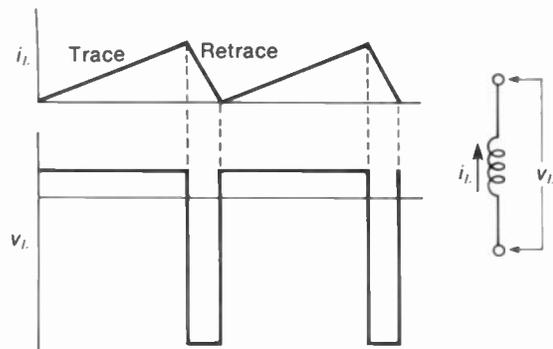

FIGURE 20-29 SAWTOOTH CURRENT  $i_L$  AND RECTANGULAR VOLTAGE  $v_L$  FOR A PURE INDUCTANCE  $L$ .
**Sawtooth  $i_L$  and rectangular  $v_L$  for inductance.** See Fig. 20-29. The amount of induced voltage across  $L$  depends on the rate of change of current. A faster change in  $i_L$  produces more self-induced voltage  $v_L$ . Furthermore, for a constant rate of change in  $i_L$ , the amount of  $v_L$  is constant. As a result,  $v_L$  in Fig. 20-29 is at a relatively low level during the slow rise in  $i_L$  during trace time. Then the fast drop in  $i_L$  produces a
**Voltage waveshapes for horizontal deflection.** The horizontal scanning coils are mainly inductive. Because of the large self-induced voltage produced by the fast horizontal flyback, the effect of  $L$  is much greater than the effect of  $R$ . Therefore, the voltage waveform is rectangular across the horizontal yoke coils and output transformer. The polarities of  $i$  and  $v$  may be as shown in Fig. 20-29 or inverted with positive flyback pulses.